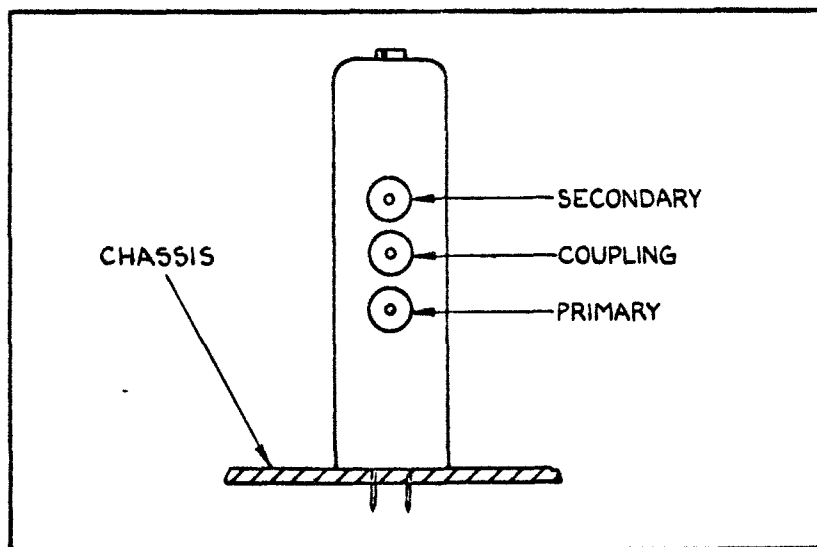

FIG. 6.1.
6.2.6. Transfer the $4.7\text{k}\Omega$ resistor to the secondary winding of T7 and trim the primary winding for maximum reading on the output meter (See Fig. 6.1. overleaf).
6.3.5. It should be noted that the coupling on all transformers is pre-set at the works and should not normally require re-adjustment. If however, the bandwidth measurements obtained in the foregoing tests differ greatly from those quoted in the preceding paragraph, the complete alignment procedure should be carefully repeated before any attempt is made to adjust the couplings. If it is considered necessary to adjust the couplings to obtain the correct bandwidths, adjustment of the coupling control in a clockwise direction will have the effect of reducing the coupling and reducing the bandwidth, whilst an anti-clockwise rotation will increase the coupling and increase the bandwidth. IF ANY ADJUSTMENT IS MADE TO THE COUPLING, THE COMPLETE FOREGOING RE-ALIGNMENT PROCEDURE MUST BE CARRIED OUT. (See Fig.6.1.below).